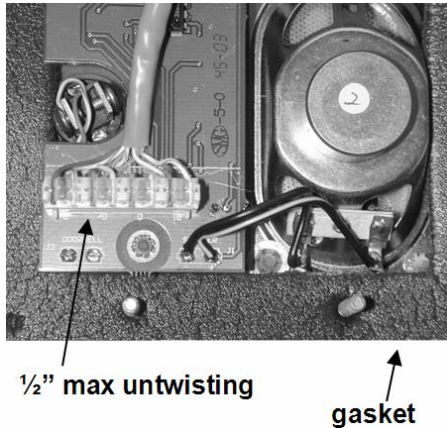

Figure 9 - Trim-Out Door Unit(s)
- Untwist cable pairs but be sure to leave 1/2" twist in the pairs between the punchdown block and the start of the cable insulation (see **Figure 9**).
- Make sure that the included weather proofing gasket is placed over the Door Unit circuit board and speaker before terminating the Cat 5e cable (see **Figure 9**).